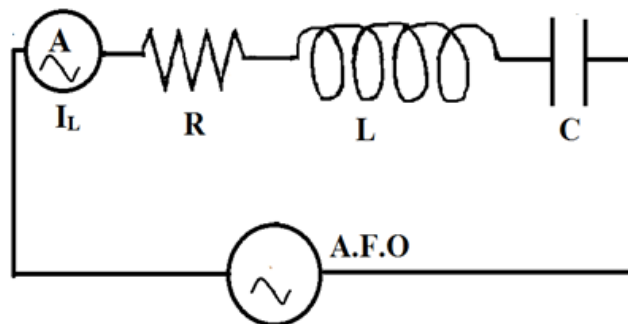

Fig. 1
- 1) Circuit connection is shown in Fig. 1.